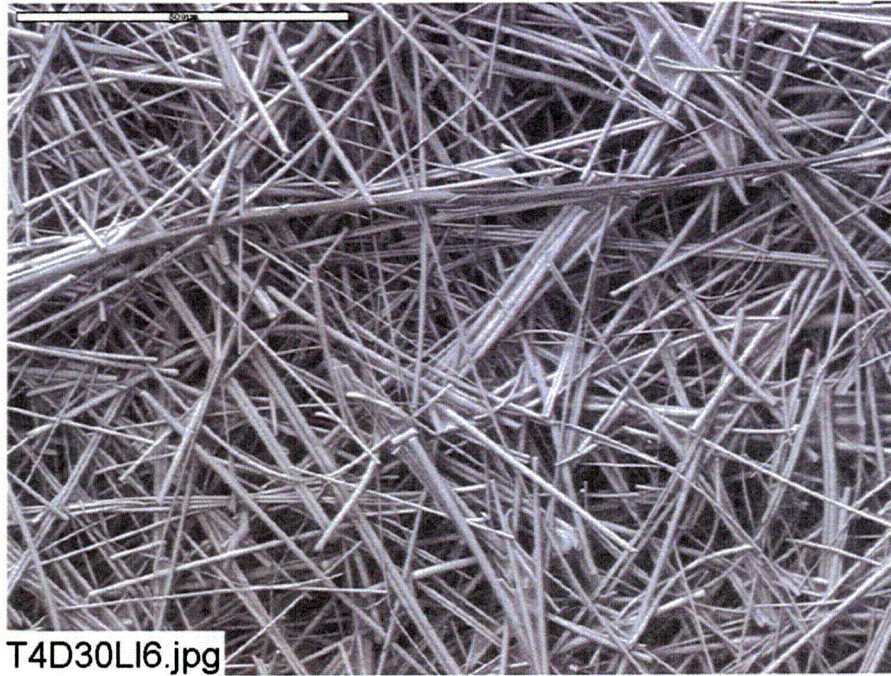

Figure C1-5. Environmental SEM image magnified 100 times for a Test #4, Day-30 interior low-flow fiberglass sample. (T4D30LI6.jpg)
- Figure C1-5. Environmental SEM image magnified 100 times for a Test #4, Day-30 interior low-flow fiberglass sample. (T4D30LI6.jpg)..... C1-6